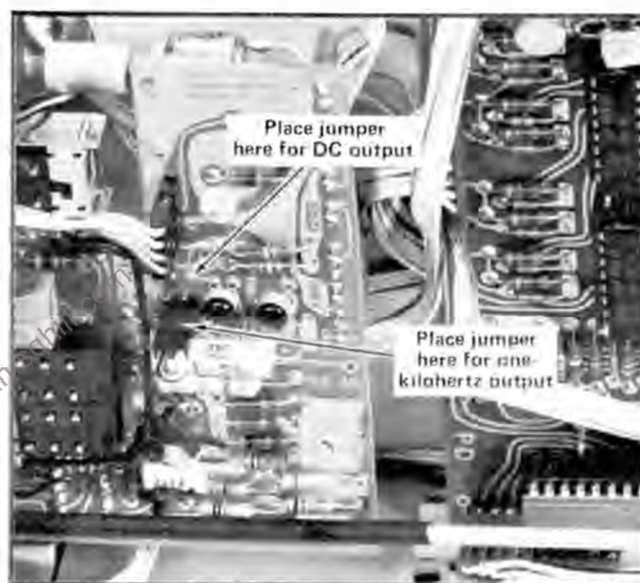

Fig. 1-5. Jumper locations for DC and one-kilohertz Calibrator operation (Calibrator board).
**Waveshape.** The square-wave output signal of the calibrator can be used as a reference waveshape when checking or adjusting the compensation of passive, high-resistance probes. Since the square-wave output from the calibrator has a flat top, any distortion in the displayed waveform is due to the probe compensation. DC voltage output is also available by changing a jumper on the calibrator board; see Fig. 1-5.